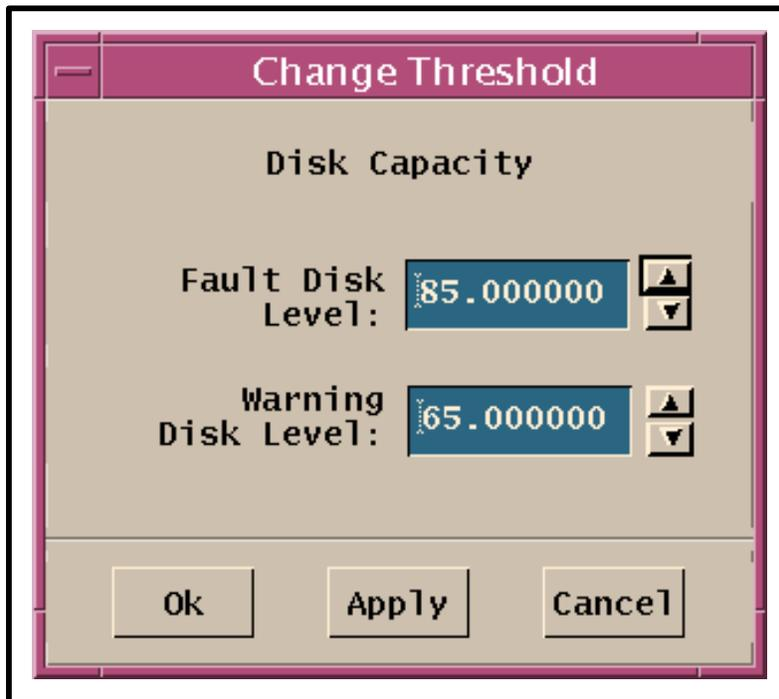

Figure 23. Change Threshold Dialogue Box
- The **Change Threshold** dialogue box (Figure 23) is displayed.